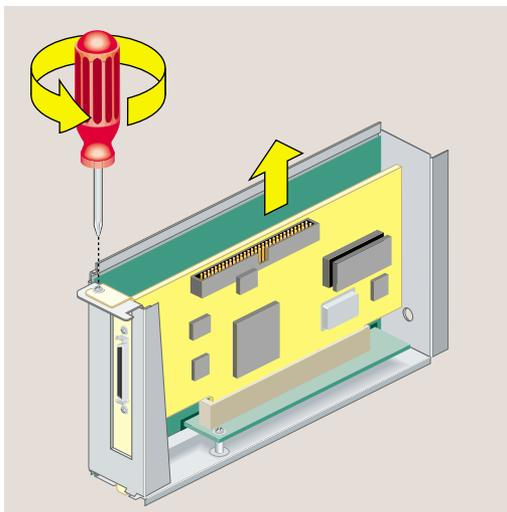

Figure 2-22 Removing the Screw and the PCI Board
4. Remove the screw that secures the board (Figure 2-22). Disconnect the PCI board and slide it out of the tray. (It may be a little difficult to remove.)